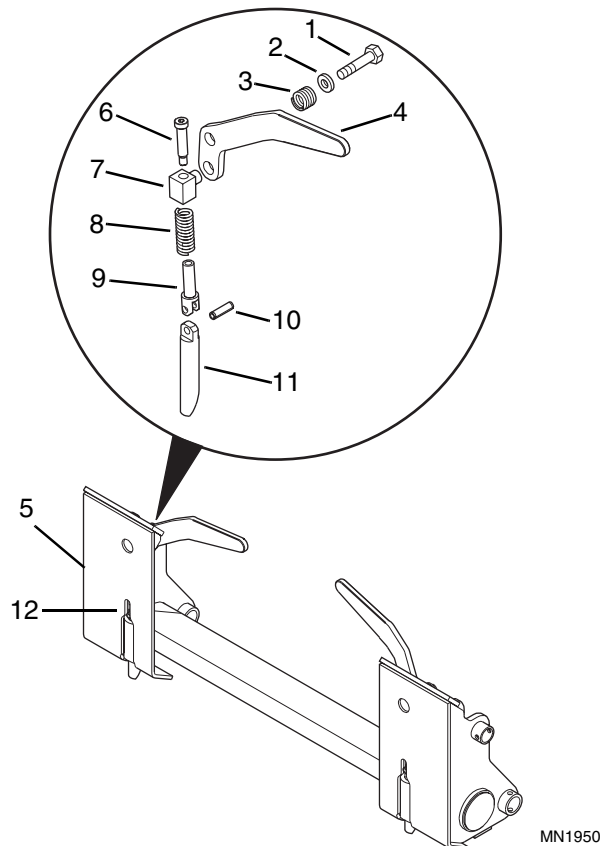

Figure 9-8 Quick Attach Lock Disassembly
1. Remove the hex drive shoulder bolt (Fig. 9-8, 1), flat washer (2), spring (3), and lever handle (4) from the quick attach frame (5).
2. Remove the hex socket head shoulder screw (Fig. 9-8, 6) that secures the guide (7) and spring (8) to the link (9).
3. Drive the spring pin (Fig. 9-8, 10) out of the link (9) and pin (11) from the front (12).
4. Remove the pin (Fig. 9-8, 11) from the frame (5).
4. Replace broken compression springs (Fig. 9-8, 8).
1. Insert the pin (Fig. 9-8, 11) into its bore in the quick attach frame, aligning the tapered face toward the rear of the frame.
2. Install the link (Fig. 9-8, 9) onto the pin (11), and secure by driving the spring pin (10) from the rear of the frame (5) through both pin holes. Continue driving the pin, until it engages the slot in the face of the quick attach frame.
3. Insert the hex socket head shoulder screw (Fig. 9-8, 6) through the guide (7) and spring (8), and into the link (9). Align the lever pivot boss on the guide (7) toward the rear of the frame (5).
4. Position the lever (Fig. 9-8, 4) on the pivot boss on the frame, and engage the guide (7) boss to the lever (4).
5. Install the hex drive shoulder bolt (Fig. 9-8, 1), flat washer (2), spring (3) through the lever handle (4) into frame and tighten securely